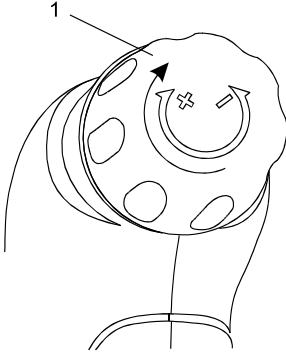

Fig. 7
1. Rotate the depth adjustment knob (1) clockwise to increase the nailing or stapling force (see Fig. 7).